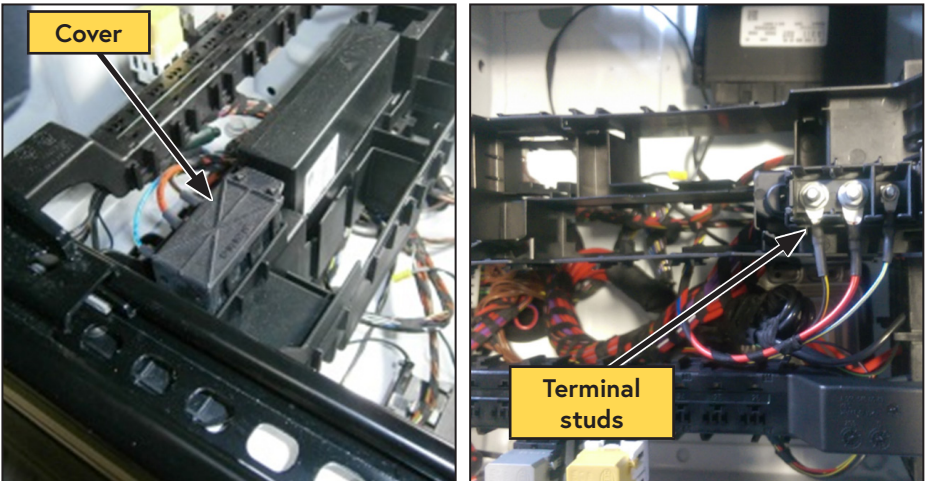

Figure 61 — Electrical access point
- Locate the electrical access point under the driver seat and open the black cover over the 3 terminal studs (Figure 61).